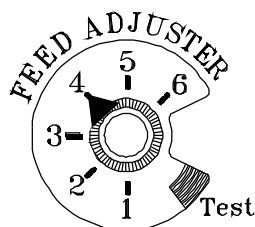

Fig. 3
4. Adjust Feed Rate. If this is your first fire or you are trying different pellets, set the feed adjuster to #4, Fig. 3. This is a conservative number and will probably need to be increased. After you know a feed rate setting that works well, use that setting. Remember, if your feed rate is too high you may waste fuel.